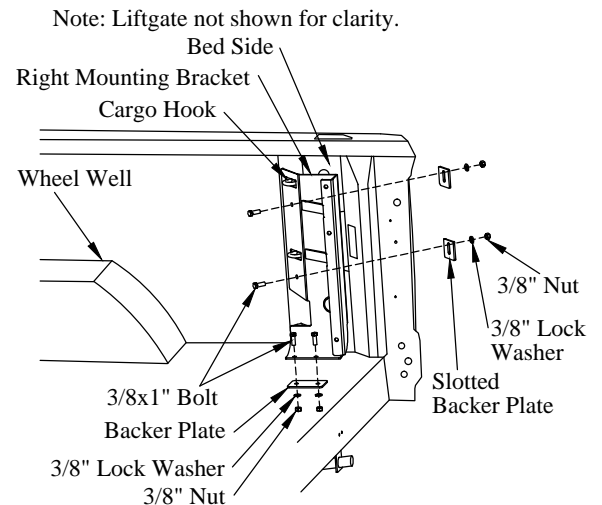

Figure 14: Mounting bracket hardware.
8. **Drill** two (2) 3/8" holes into the truck bed floor using the holes in the bracket as a guide (Figure 14).
9. **Fasten** each bracket to the truck bed floor using the supplied (Figure 14):
- (1) backer plate, (2) lock washers, and (2) hex nuts on the under-side.
10. **Drill** two (2) 3/8" holes into the truck bed side near the cargo hooks, using the holes in the bracket as a guide (Figure 14).
11. **Fasten** each bracket to the truck bed side using the supplied (Figure 14):